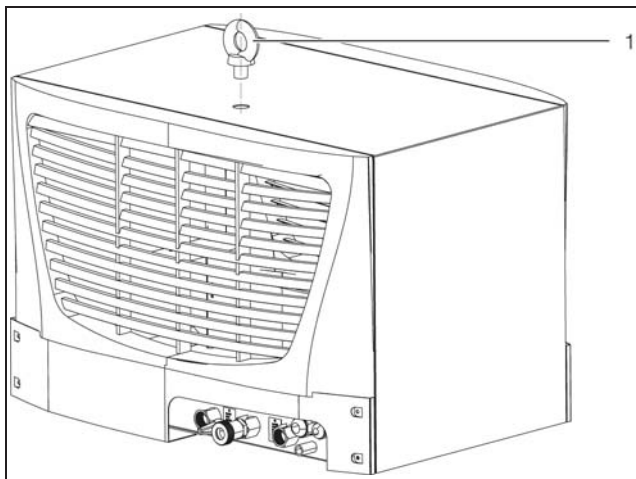

Fig. 17: Eyebolt for transportation (3318.600 shown here as an example)
- Only transport the chiller on the pallet supplied with the chiller or with the eyebolt provided (fig. 17, item 1).